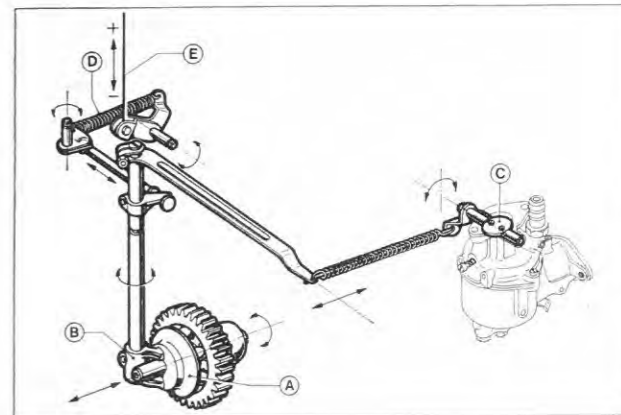

Fig. 31
dans l'engrenage actionné par le vilebrequin (Fig. 31).
Governor is of the centrifugal type, consisting of flyballs housed in slots of the governor gear directly driven by the crankshaft (Fig. 31). Centrifugal force makes the balls move outwards rising up their sloped seats, thus pushing governor bell (A) sideways. Axial movement of governor bell (A) is transmitted by the yoke (B) to the fuel throttle valve (C), through control linkages. Tension exerted by accelerator control (E) on governor spring (D) acts against the governor centrifugal force. Upon engine load variations at a fixed position of the accelerator, governor operates as follows: engine speed increases when load is taken off, boosts flyballs centrifugal force thus moving bell (A) outwards to reduce fuel feeding; engine settles to a slightly higher speed (droop); speed drops when engine is loaded, reducing centrifugal force. The tension of the governor spring pushes the governor bell (A) inwards, thus increasing fuel feeding; engine speed slightly decreases and sets to a lower level (governor droop).
Es handelt sich um einen Fliehkraftregler mit Kugeln, die sich in einem direkt von der Kurbelwelle angetriebenen Zahnrad befinden (Abb.31).